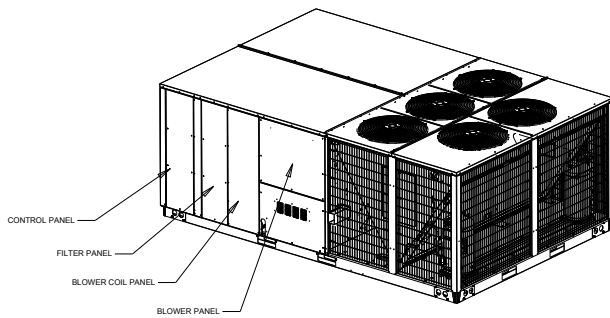

FIGURE 18
2. Remove the Control, Filter, Blower Coil and Blower panels from the unit. See Figure 18.